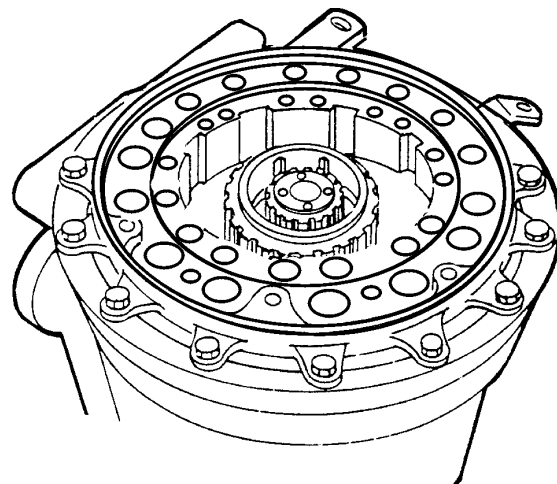

Fig. 7.38. Sun Gear
14. Place sun gear (47) on sun gear hub (50) with items (49, 51, 52 and 53) attached over sun gear spline so that it meshes with planet gears (41, Fig. 7.38). Coat retainer (70) bolts with Loctite #12017 and torque to 92 Nm.
15. Assemble spring retainer cover (84) with new seals and O-rings (78 thru 81). Lubricate seals and install low range piston (77).